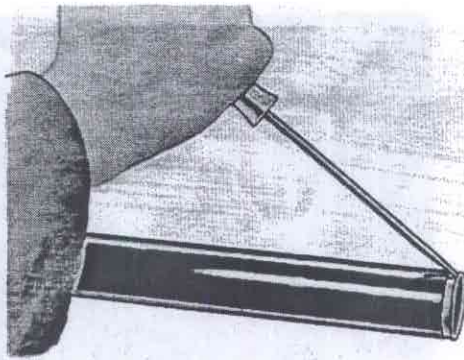

Fig. 64-21. Removing the upper steering shaft bearing
6. Check the bearing at the top of the steering column jacket. To replace the bearing, knock it out with a screwdriver, see Fig. 64-21. Knock in the new bearing with a plastic mallet.